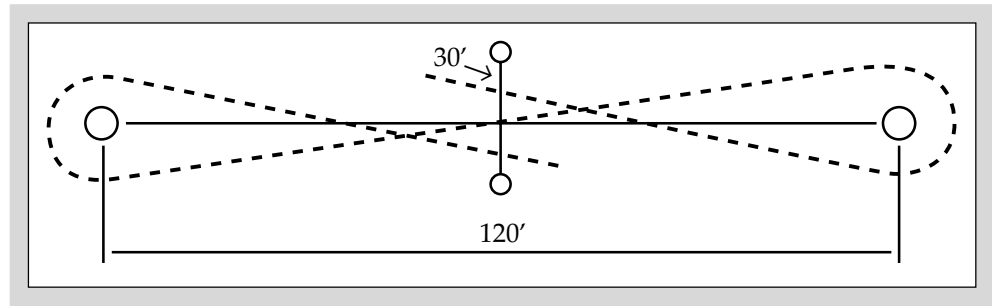

Figure 7. Driving Figure Eight Stake Race.
Driving Figure-Eight Stake Race (see Figure 7)
Course: Two (2) markers placed 120 feet apart with the start–finish line an equal distance (60 feet) between (see Figure 7).